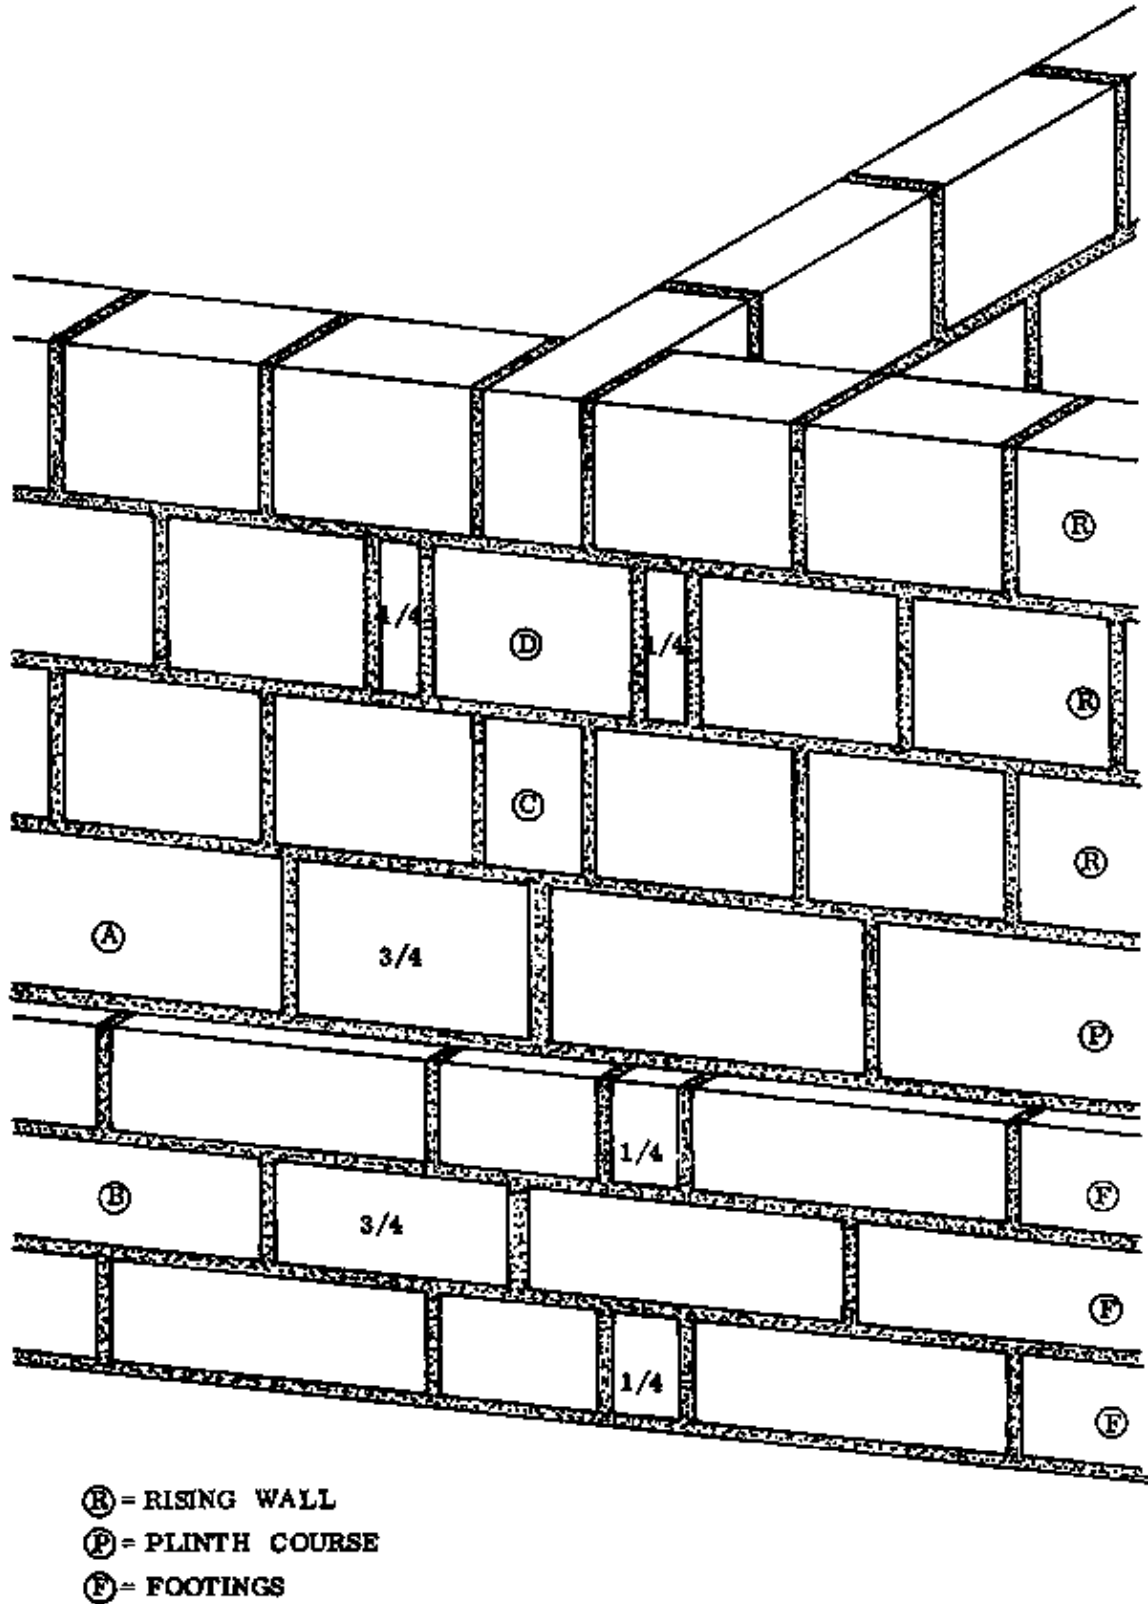

Fig. 1
– PLINTH COURSE: Except that the blocks are laid edgewise rather than flat, the plinth course is simply a repetition of the footing course two courses below (Fig. 1, blocks A & B).
The first block of the landcrete wall is the one which is shared by the inside and outside walls and covers two cross joints (Fig. 1, block C). It is followed in all three directions by full blocks.